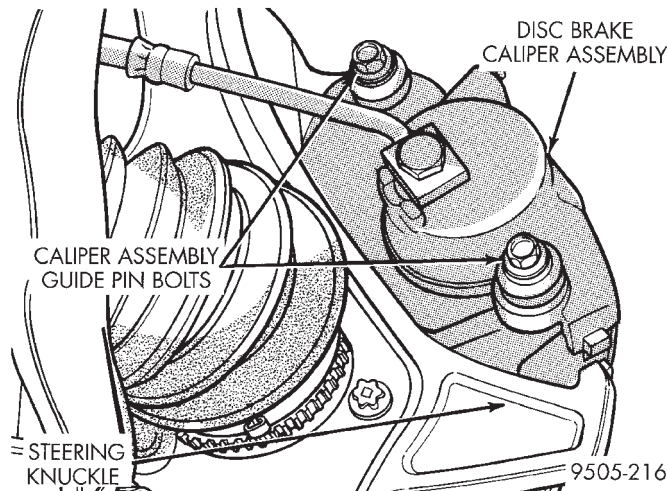

Fig. 44 Removing Caliper Guide Pin Bolts
(3) Remove the 2 caliper to steering knuckle guide pin bolts (Fig. 44).
(4) Install the brake caliper guide pin bolts (Fig. 44). Then tighten the guide pin bolts to a torque of 22 N·m (16 ft. lbs.).
(5) Install the wheel and tire assembly.
(6) Tighten the wheel mounting stud nuts in proper sequence until all nuts are torqued to half specification. Then repeat the tightening sequence to the full specified torque of 135 N·m (100 ft. lbs.).